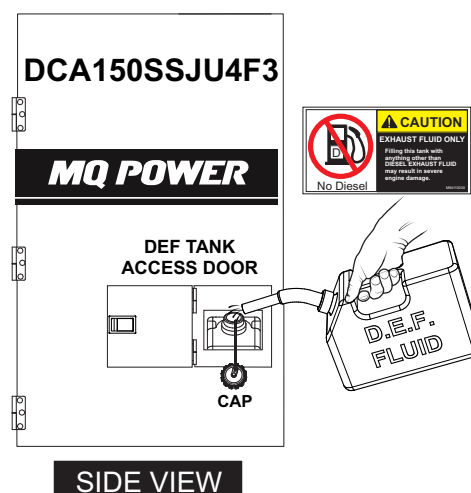

Figure 43. DEF Tank Filling (DCA150SSJU4F3)
3. For DCA150SSJU4F3 generators, open the DEF **access door** (Figure 43), remove the filler cap and fill with DEF fluid.